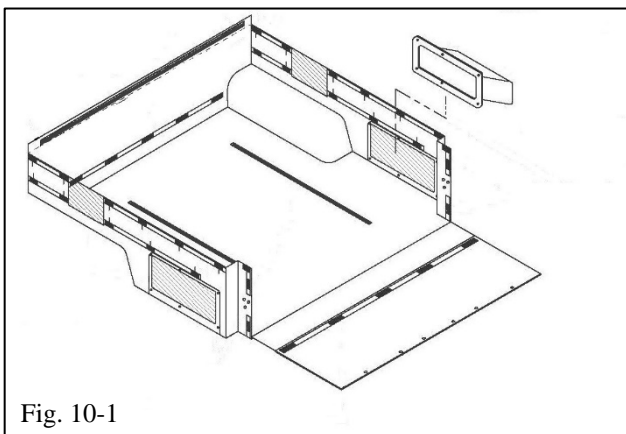

Fig. 10-1
- (a) Verify the BedRug is installed in the proper locations (Fig. 10-1).